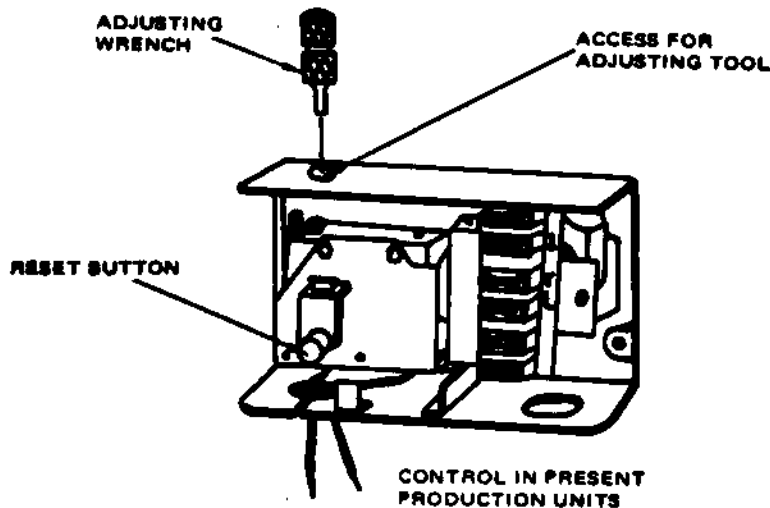

FIGURE 6
6. Units with the control shown in Figure 6 require a special wrench for adjustment which is included with this kit.